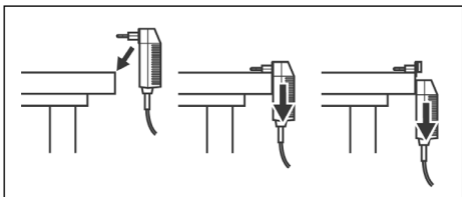

Fig. 5 SNT-121A: Changing the AC line plug adapter.
1. Place the SNT-121A against the edge of a table or bench as shown (see Fig. 5).